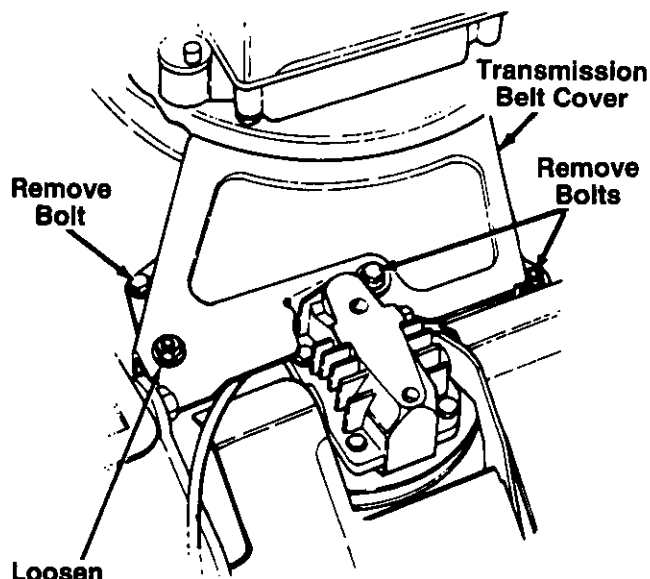

FIGURE 19.
3. Remove the transmission belt cover by removing three bolts. See figure 19.